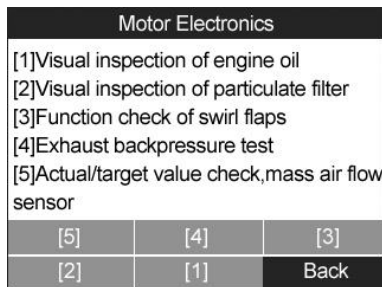

Figure 11.29
- a) From the particle filter test menu (*Figure 11.29*) use the **LEFT/RIGHT** scroll button to select **[1]** and press the **OK** button.
- a) From the particle filter test menu (*Figure 11.29*) use the **LEFT/RIGHT** scroll button to select **[2]** and press the **OK** button.
- a) From the particle filter test menu (*Figure 11.29*) use the **LEFT/RIGHT** scroll button to select **[3]** and press the **OK** button.
- a) From the particle filter test menu (*Figure 11.29*) use the **LEFT/RIGHT** scroll button to select **[4]** and press the **OK** button.
- a) From the particle filter test menu (*Figure 11.29*) use the **LEFT/RIGHT** scroll button to select **[5]** and press the **OK** button.